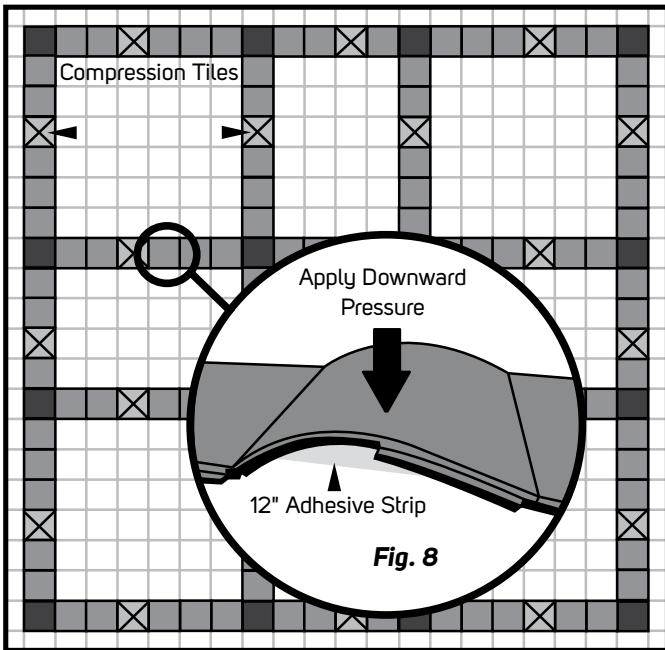

Fig. 7
- c) The final tile located in the middle of the strategic row is the compression tile and must be compressed into a space smaller than the tile. The process of compressing the tile into this space will force the other tiles to compress in each direction (**Fig. 7**).